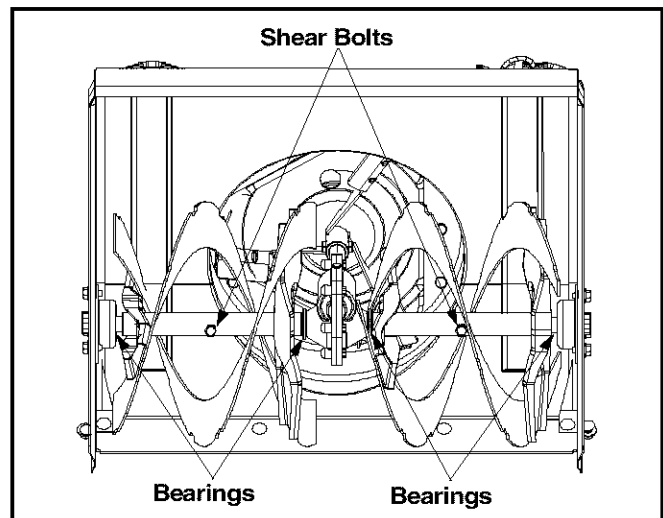

Figure 19
- At least once a season, remove shear bolts on auger shaft. Oil or spray lubricant inside shaft. Also lubricate the auger bearings at least once a season. See Figure 19.